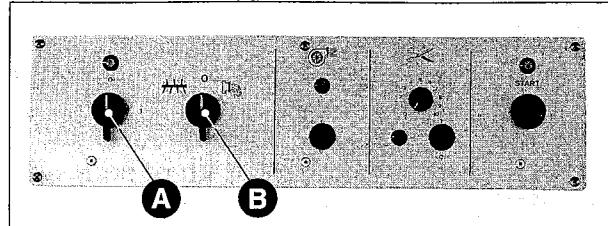

Fig. 2
- position the main switch on "0" (Fig. 2 A) and check the correct set-up of the Archimedean screw, making sure that the cylinder part is sustained by the dragging shaft;
In this case, before turning the switch (Fig. 2 B) **FROM KNEAD TO DRAWPLATE** you will have to add some more flour and knead a little longer. If the flour does not form a ball and is too floury, add some more water.